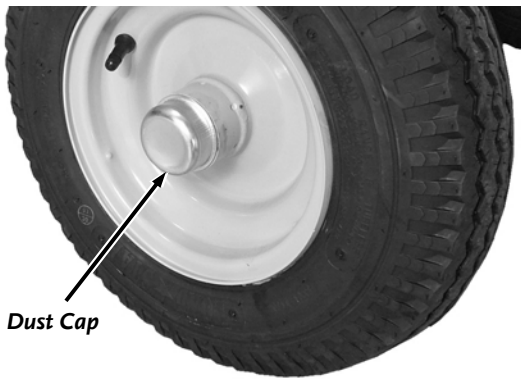

Figure 35
2. Remove the Dust Cap from the Wheel Assembly with Channel Lock Pliers (**Figure 35**).
11. Place the Dust Cap onto the Wheel Assembly Hub and work it into the Hub using a soft face Hammer (**Figure 35**).